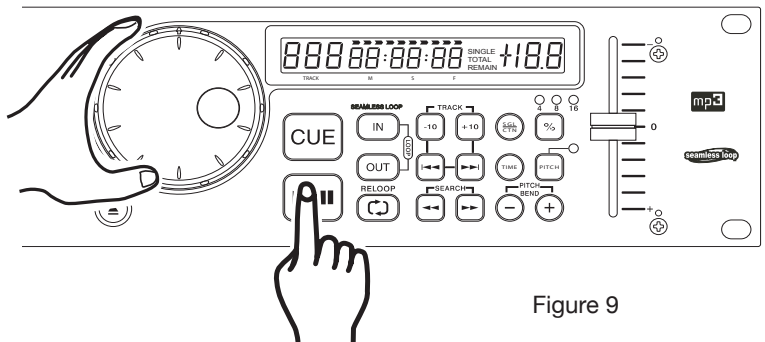

Figure 9
This feature allows you to scroll through a track to set a cue, or loop point. To use the scroll function you must first be in Pause Mode or Cue Mode. Once you are in Pause or Cue mode, use your finger tip or hand to turn the *JOG WHEEL* (2) to scroll through the track (figure 9). Turning the wheel in a clockwise direction will advance the frame search and turning the wheel in a counter-clockwise direction rewinds the frame search. When you use the *JOG WHEEL* (2) the monitor (headphone level) of a mixer allows you to here what you are scrolling through. Once you reach your desired starting point you can set a cue (starting) point by pressing the *PLAY/PAUSE BUTTON* (16) as in figure 9. Pressing the *CUE BUTTON* (17) will return the disc to the cue point just set.